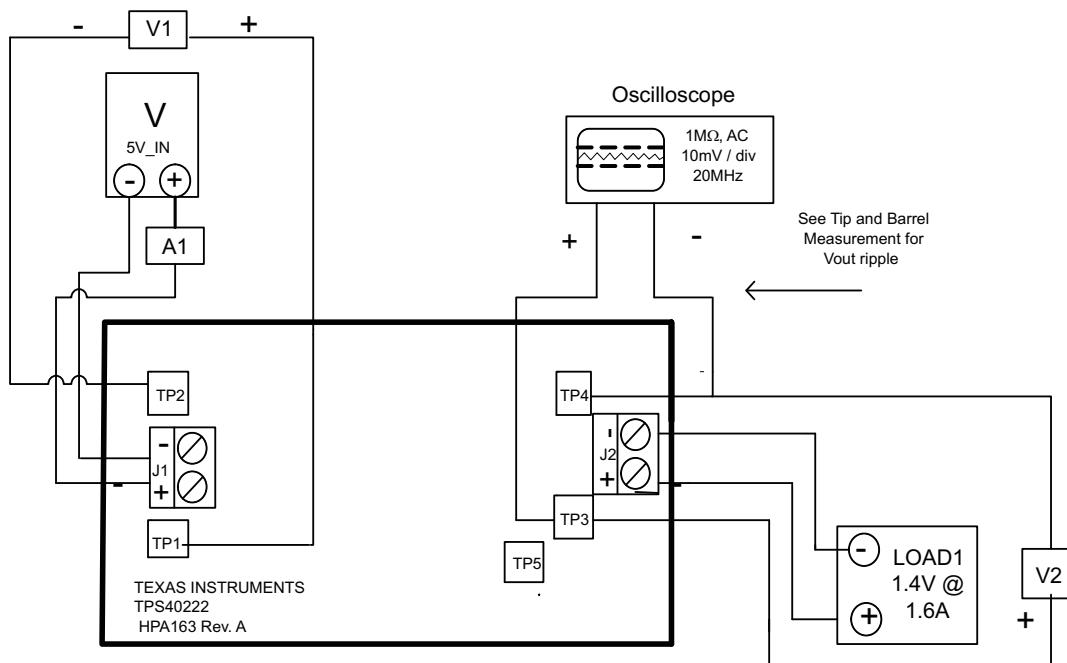

Figure 2. TPS40222EVM-001 Recommended Test Setup
V_{5V_IN} — The input voltage source (V_{5V_IN}) should be a 0-V to 15-V variable DC source capable of 5 Adc. Connect V_{5V_IN} to J1 as shown in Figure 2.
Figure 3 shows the basic test setup recommended to evaluate the TPS40222EVM-001. Note that although the return for J1 and J2 are the same, the connections should remain separate as shown in Figure 2.
2. Prior to connecting the DC input source, V_{5V_IN} , it is advisable to limit the source current from V_{5V_IN} to 2 A maximum. Ensure that V_{5V_IN} is initially set to 0 V and connected as shown in Figure 2.
3. Connect the ammeter A1 (0–5-A range) between V_{5V_IN} and J1 as shown in Figure 2.
4. Connect voltmeter V1 to TP1 and TP2 as shown in Figure 2.
5. Connect LOAD1 to J2 as shown in Figure 2. Set LOAD1 to constant-current mode to sink 0 Adc before V_{5V_IN} is applied.
6. Connect voltmeter, V2 across TP3 and TP4 as shown in Figure 2.
Table 3 lists the EVM components as configured according to the schematic shown in Figure 1 and Figure 2.